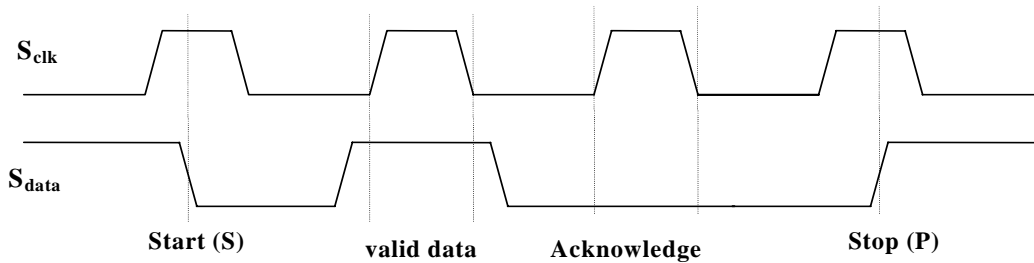

Figure 2. Serial Interface Specifications
Figure 2 shows the basic transmission specification. To begin and end a transmission, the master device generates a start signal (S) and a stop signal (P). Start (S) is defined as switching the S_{data} from HIGH to LOW while the S_{clk} is at HIGH. Similarly, stop (P) is defined as switching the S_{data} from LOW to HIGH while holding the S_{clk} HIGH. Between these two signals, data on S_{data} is synchronous with the clock on the S_{clk}.
Figure 2 shows the serial interface transfer format used with the CY2XP304. Two dummy bytes must be transferred before the first data byte. The CY2XP304 has only three bytes of latches to store information, and the third byte of data is reserved. Extra data will be ignored.